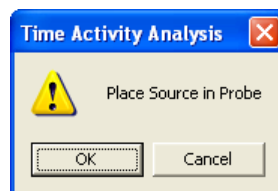

Figure 12-6
- The screen shown in Figure 12-6 will appear.